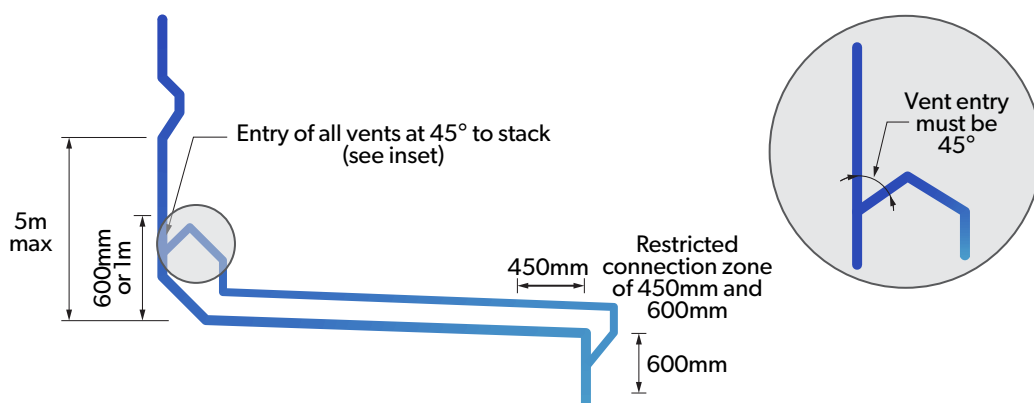

Figure 4 - Graded stack offset with pressure relief bypass
1.5.2 Any stack offset greater than 45° will require a pressure relief vent (see figure 4). For further details please see AS/NZS3500.2 Figure 11.5.1(B).